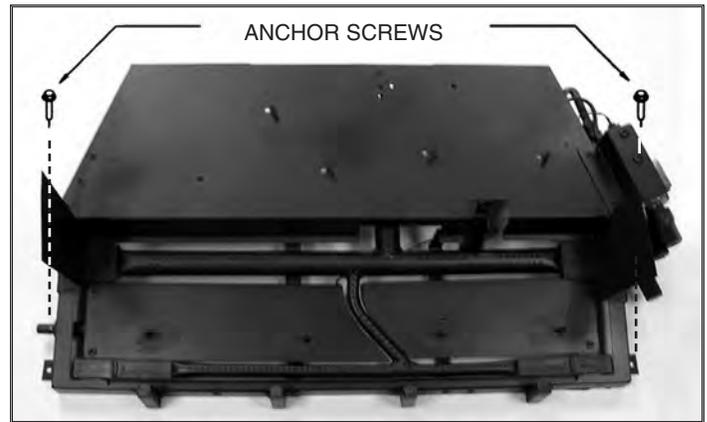

FIGURE 10
Assembly Procedure (Figure 10)
2. An anchor hole is provided in the two bottom side members of the grate frame. After centering the grate correctly, mark the hole positions on the fireplace/firebox floor. Drill two (2) 3/16" diameter holes approximately 1-1/2" deep for masonry screws or 1/8" holes for sheet metal screws.
3. Anchor the grate to the fireplace/firebox floor using the screws provided. Refer to Figure 10.